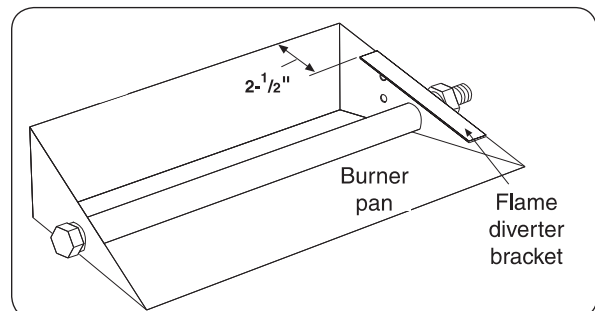

Fig. 5-3
1. Place the flame diverter bracket over the side edge of the burner pan, near the location the safety control system pilot bracket will be attached. It should be placed **approximately $2\frac{1}{2}$ "** from the rear wall of the burner pan (see Fig. 5-3).